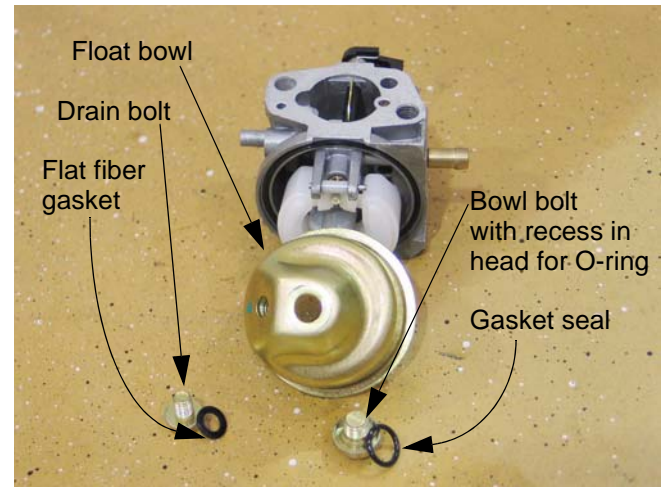

Figure 4.15
3. Remove the bowl bolt using a 10mm wrench. See Figure 4.15.